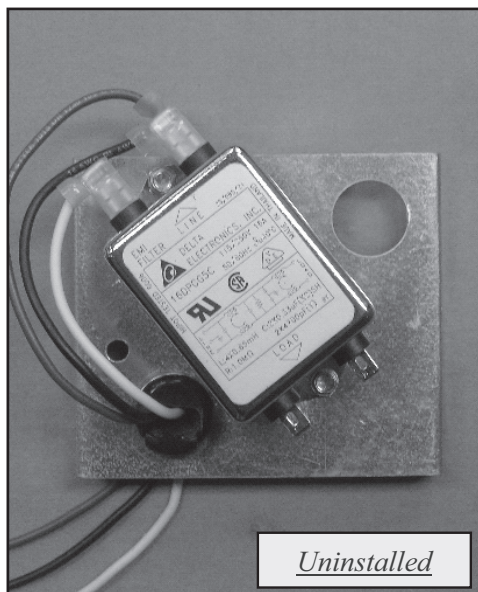

FIGURE 7
6. Attach the EMI Filter with provided screws to the modified junction box cover. See Figure 7.